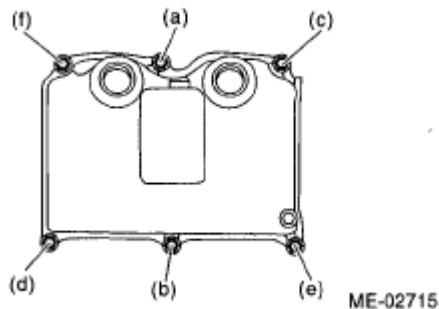
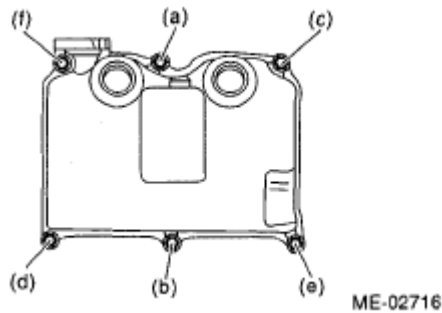

Fig. 121: Identifying Rocker Cover Gasket Bolts Tightening Sequence - RH Side
Fig. 122: Identifying Rocker Cover Gasket Bolts Tightening Sequence - LH Side
- Tighten the bolts in two stages in alphabetical sequence as shown in Fig. 121 and Fig. 122.